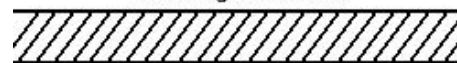

Figure 1. Mounting the unit
- The unit is not designed to be mounted such that the box sets on grade level (figure 1).